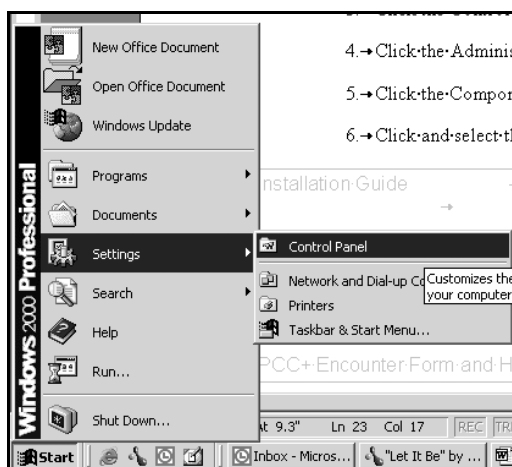

Figure 5-4: Opening the Control Panel
2. Click the Settings option (Figure 5-4).